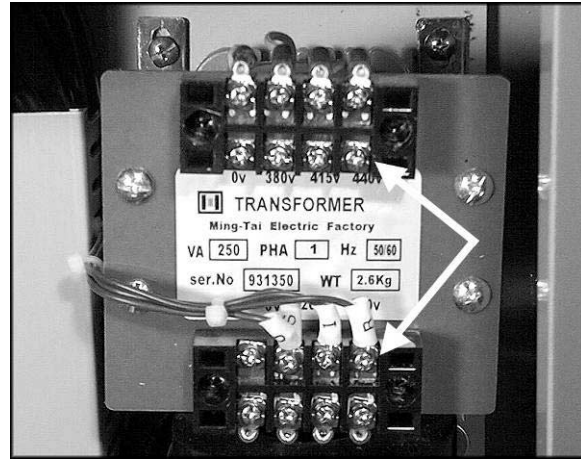

Figure 6
- In the electrical cabinet, switch the “R” wire on the transformer from the 220V to the 440V terminal. See Figure 6. (Refer to the wiring diagram on the inside cover of the electrical box for clarification.)